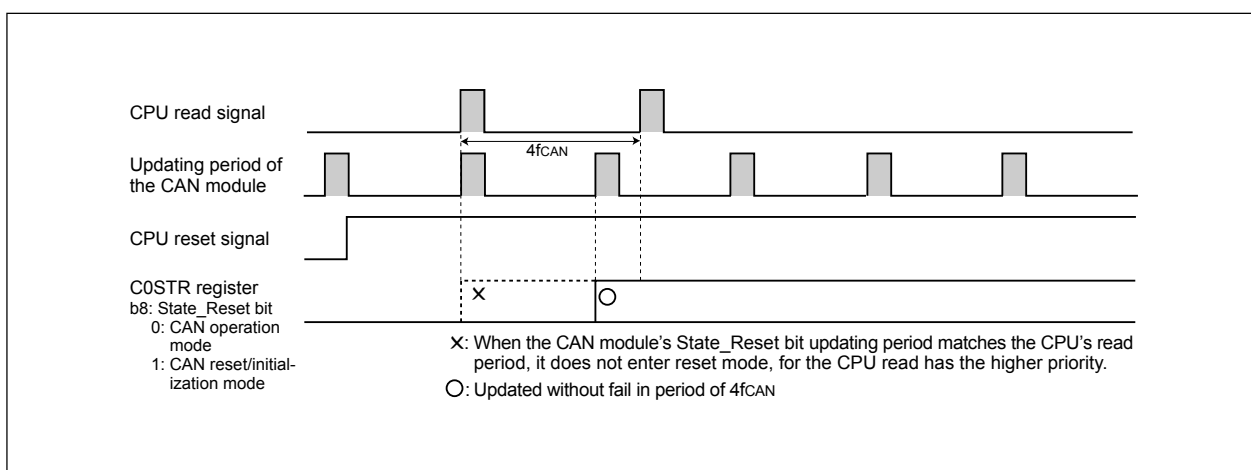

Figure 22.7 When Polling Period of CPU is 3fCAN or Longer
- (2) When the CPU polls the C0STR register, the polling period must be $3f_{CAN}$ or longer. (See **Figure 22.7**)